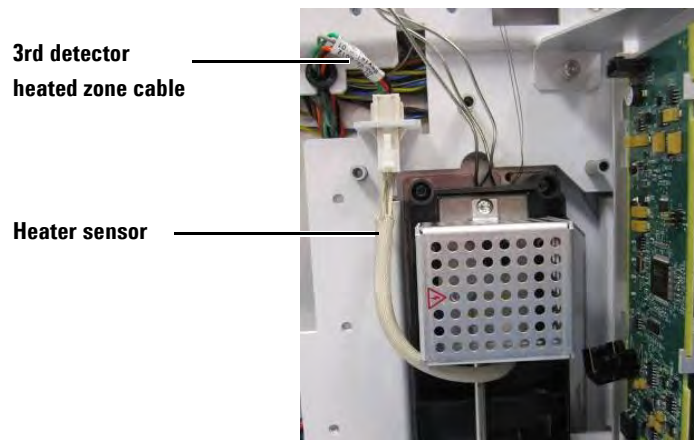

Figure 22 Heater sensor plugged into third detector heated zone cable
- 6 Connect the heater sensor from the μ ECD to the third detector heated zone cable as shown in Figure 22.